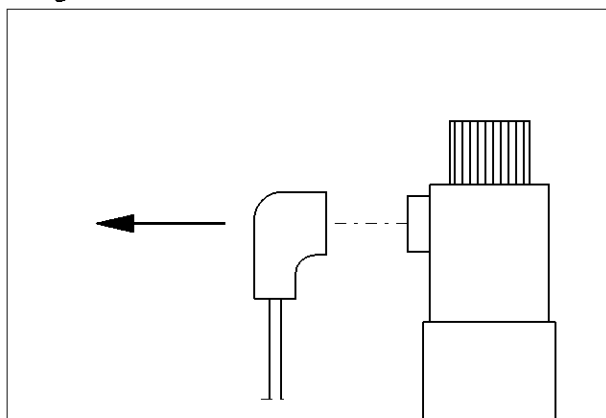

Fig. 84
- b. Disconnect the power cable on the solenoid valve (fig. 84).